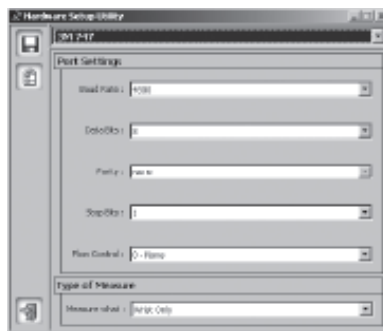

Figure 2
- Click on  to launch Hardware Setup Utility, (Figure 2). This function is used to configure your system to function in accordance to your requirements. There are four main sections on this function: 3M 747, Card Reader, Stations, and Other Options. Use drop-down arrow at top.
Note: This section is used to set up your Shoes and Wrist Strap Tester 747 to communicate with your PC and identify your type of measurement. Refer to Figure 2.